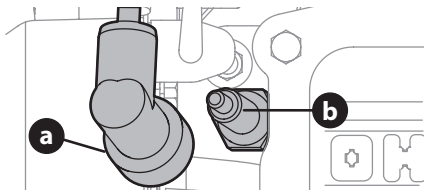

Figure 11
1. Remove the spark plug boot (a) and use a spark plug wrench to remove the spark plug (b) (Figure 11).